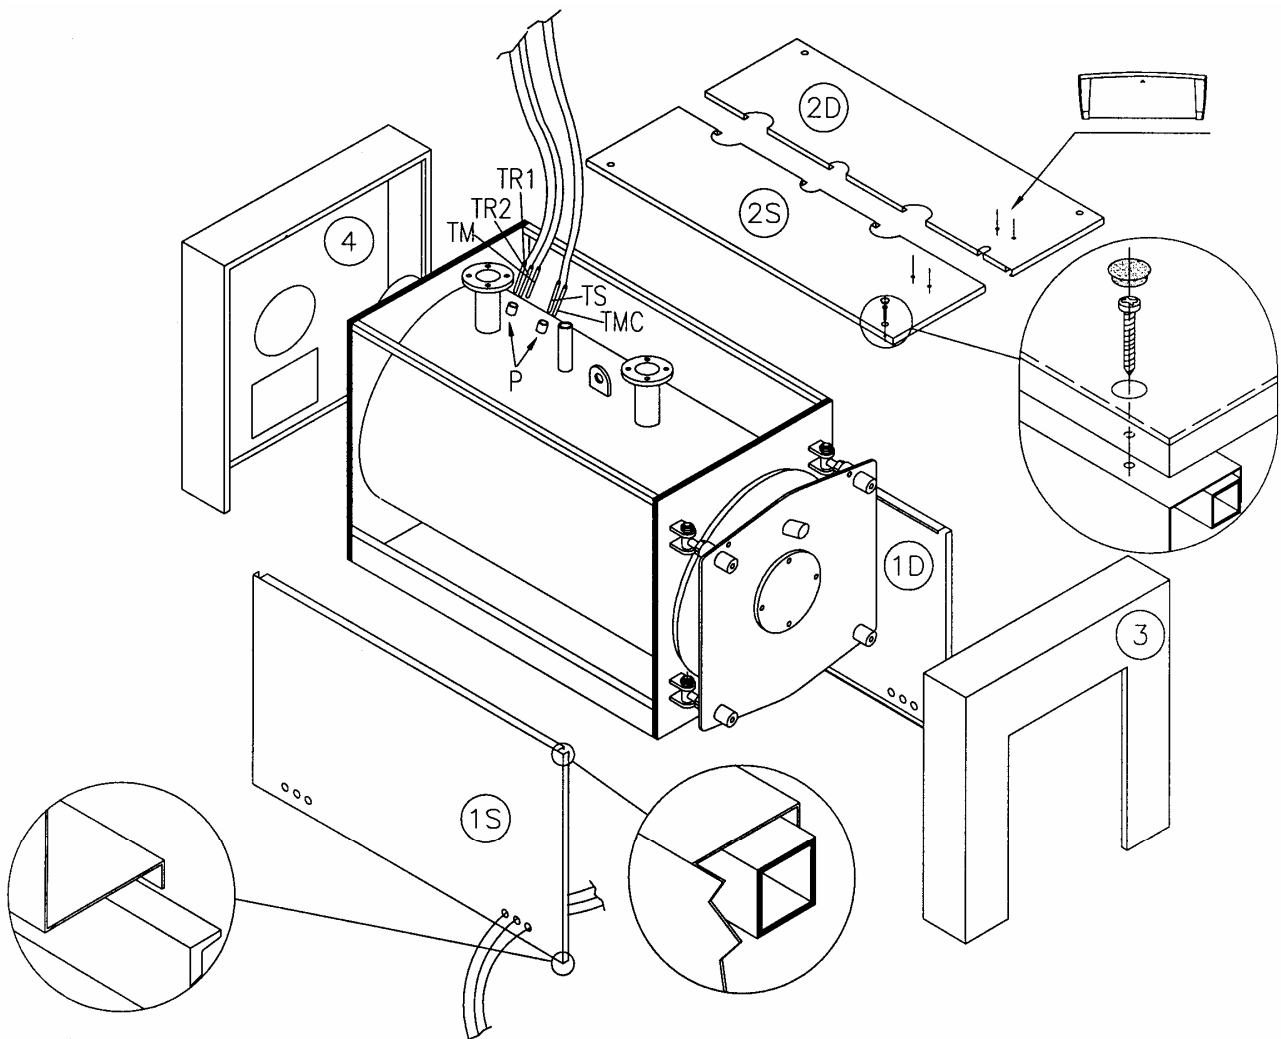

Fig. 8
**4.2 REX 7÷40/REX K 25÷40 BOILER CASINGS (Fig. 8)**
- a) Wrap the glass wool around the boiler body leaving the bulb well (P) on the right side exposed.
- g) Fit panels (3) and (4) connecting them to the side panels.